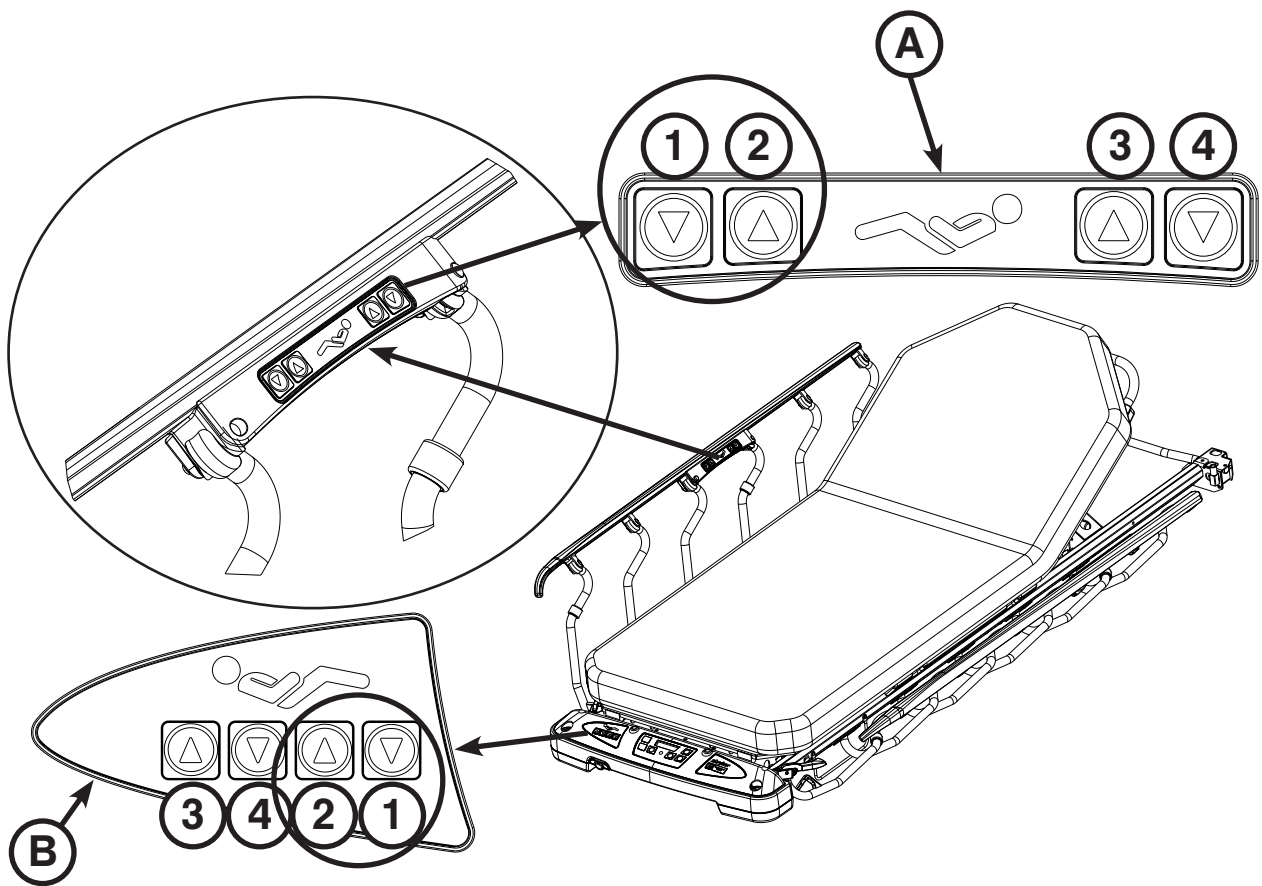

Figure 27: Gatch - Electric Option
To raise the gatch, press the UP (2) button on the siderail patient controls (A) or foot end nursing controls (B) until the gatch has reached the desired height (5.5"/14 cm minimum) as shown in Figure 27.
To lower the gatch, press the DOWN (1) button until the gatch has reached the desired height (5.5"/14 cm minimum) as shown in Figure 27.